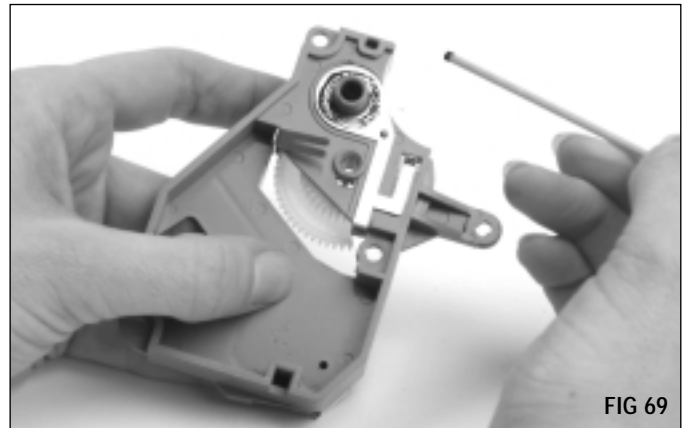

FIG 69
9. Apply a THIN layer of conductive cartridge lubricant (Item Code: CONCLUBE) on the electrical contact. (FIG 69)